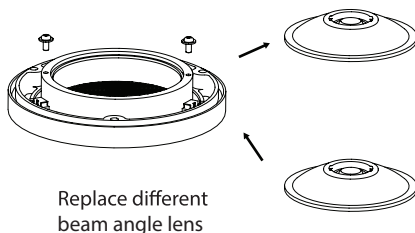

FIG.5
2. Replace your beam angle lens on panel and put back two screws. (**FIG.5**)